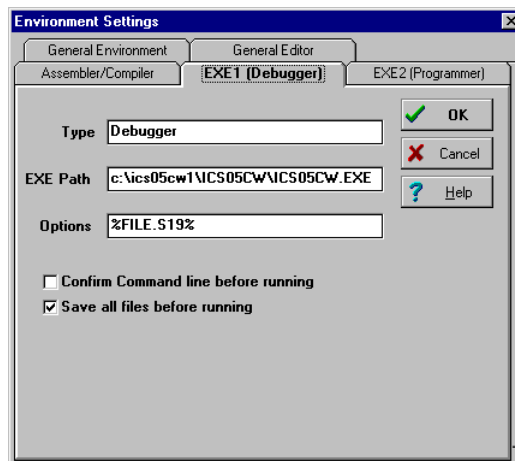

Figure 1-1. WinIDE Environment Settings Dialog EXE1 Tab
- Click on the *EXE1 Debugger* tab to bring the tab (Figure 1-1) to the front. Set the executable type, path and filename, command line options (including optional switches, filenames, or port settings), and other options for the ICS05BW debugger application.